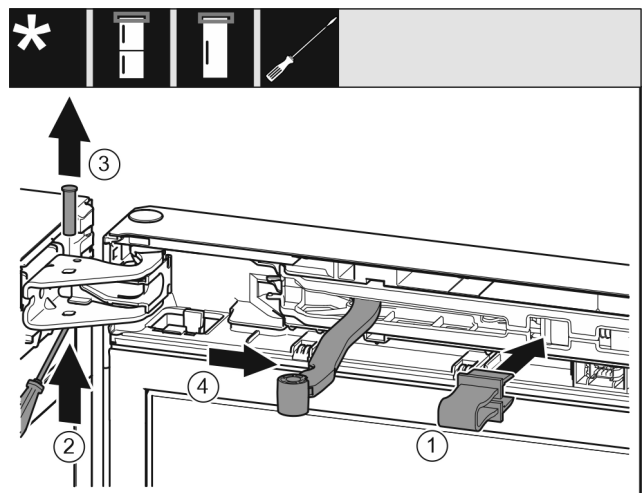

Fig. 13
- Latch safeguard Fig. 13 (1) into opening.
- Slide out the bolt Fig. 13 (2).
- Remove the bolt Fig. 13 (3) upwards.
- Turn the joint Fig. 13 (4) towards the door.